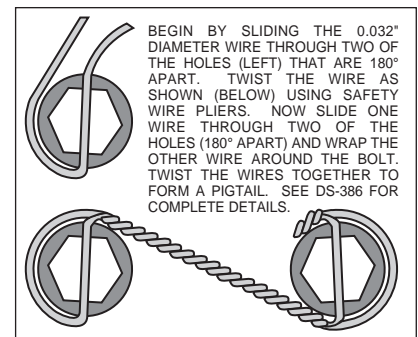
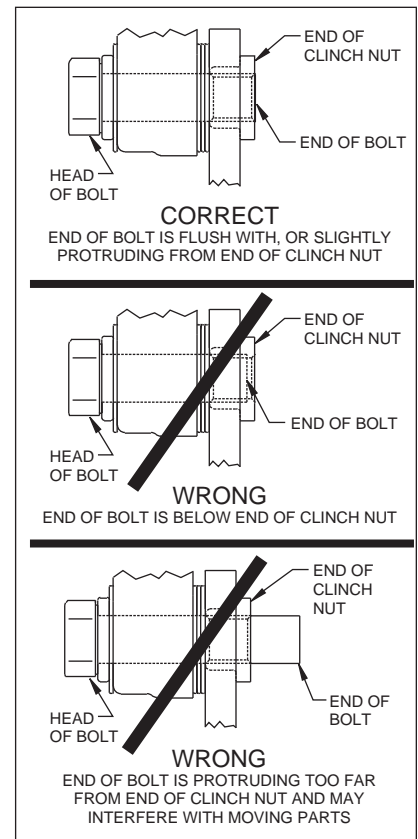

Figure 3. Safety Wire Diagram
Figure 4.
- The rotor (3) has two sides. A flat side and an inset side. Bolt hat (2) to flat side of rotor (3) using bolts (5). Using an alternating sequence, apply red *Loctite*® 271 to the threads and torque bolts (5) to 25 ft-lb. For an added measure of security, the bolts may be safety wired using standard 0.032 inch diameter stainless steel safety wire as shown in Figure 3. Please refer to Wilwood's data sheet DS-386 (available at www.wilwood.com/Pdf/DataSheets/ds386.pdf) for complete safety wire installation instructions.
- Align the correct hole pattern in the hat (2) with the stud pattern on the axle flange. **NOTE:** Some OEM and after market axles come with stud sizes larger than 0.50" diameter. Verify stud size and have a qualified machine shop drill the hats to the correct size. Slide the hat/rotor assembly (2 and 3) over the wheel studs and against the axle flange face.
- NOTE:** Please reference the caution statement at the beginning of the assembly instructions. Mount the caliper (6) over the rotor (3) and onto the caliper mounting bracket (1) using washers (7) and mounting bolts (8). View the rotor through the top opening of the caliper. The rotor should be aligned in the center of the caliper. If not, adjust the caliper by using 0.032 inch shims (9) by placing them between the caliper mounting bracket (1) and the caliper (6). Add as many shim washers (9) as necessary to achieve the correct alignment. **NOTE:** The end of the bolt must be flush with or slightly protruding from the head of the clinch nut. See Figure 4. Place spare shims (9) between washer and caliper mounting ear to achieve the proper mounting fastener configuration. Always use the same amount of shims on both the top and bottom caliper mounting bolts (8). Apply red *Loctite*® 271 to the mounting bolt threads (8), torque to 40 ft-lb. Caliper mount bolts may be safety wired for additional security.
- Position the Wilwood disc brake pads (10) into the caliper (6) and fasten with cotter pin (4). Steel backing plate side of brake pad should face the caliper pistons.